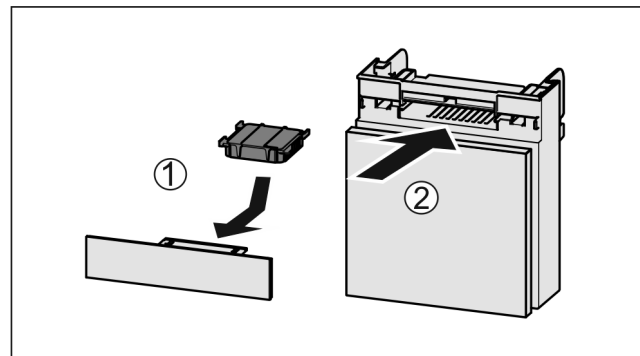

Fig. 162
- ▶ Insert the carbon filter as shown in the diagram Fig. 162 (1).
- ▶ Push the compartment in Fig. 162 (2).